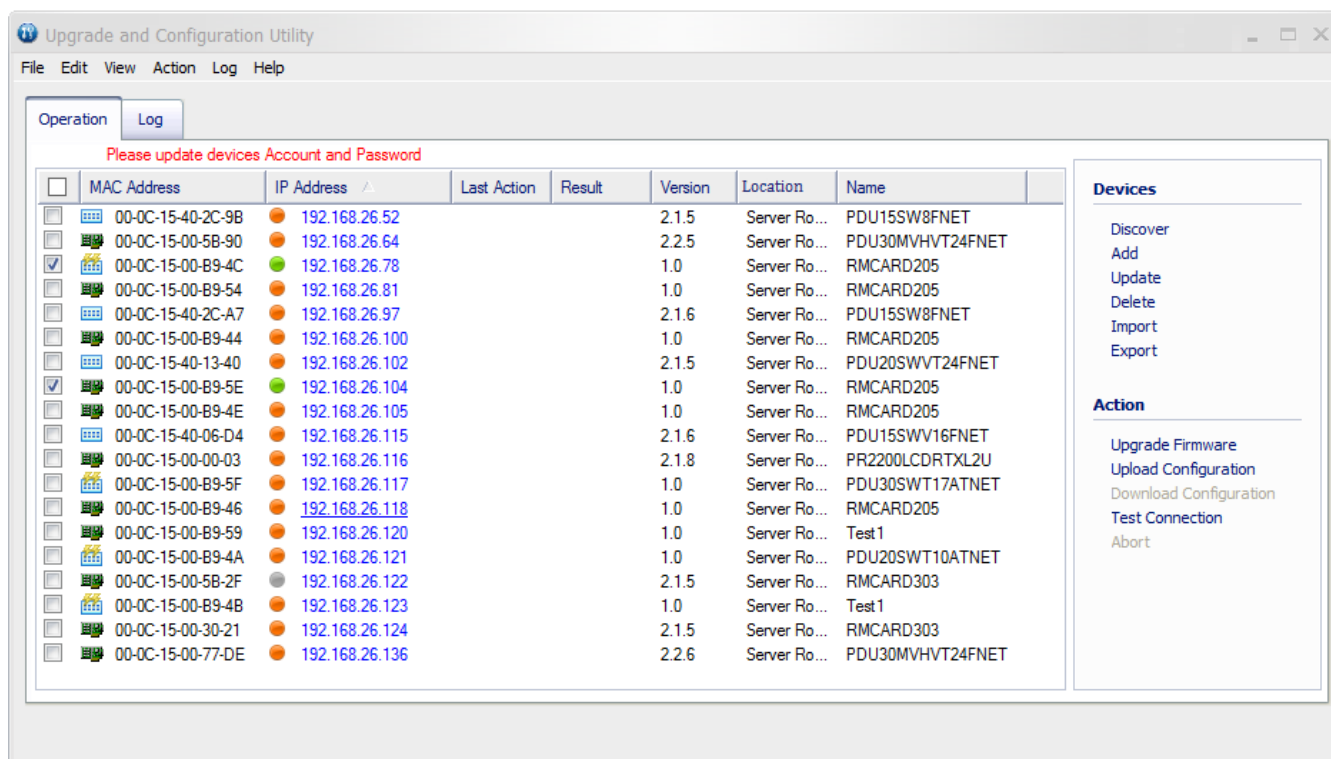

Figure 6. The main window of the “Upgrade and Configuration Utility” program.
3. The main dialog of the Upgrade and Configuration Utility tool program is shown in Figure 6. The configuration tool will display all CyberPower Remote Management devices present on the same network subnet. The "Discover" button is used to search the local network subnet again.